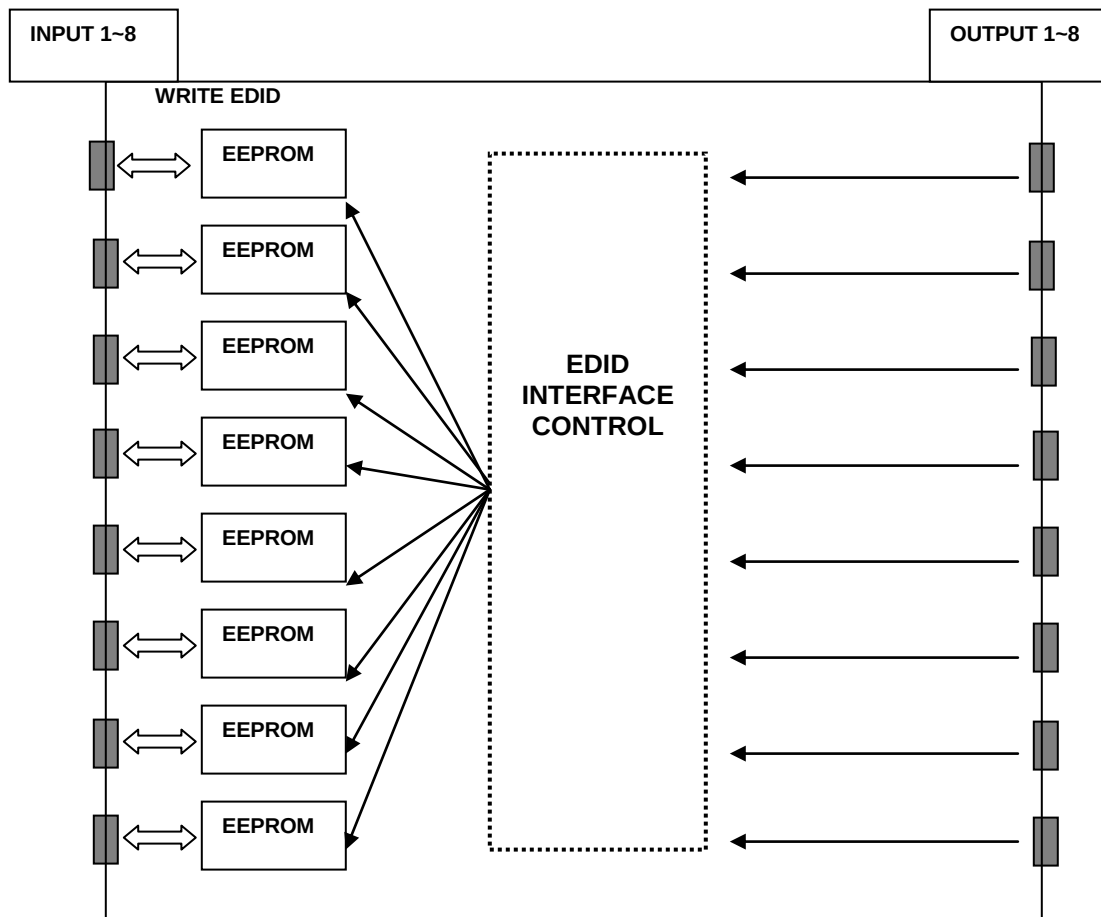

Figure 1-3 Concept drawing for setting EDID in ODM88
- As depicted in Figure 1-3, once EDID is configured, each EDID is stored in EEPROM at the front of the DVI Input. As a result, the video sources are able to read EDID from the EEPROM during boot-up; even though the ODM88 and connected displays are not powered on yet.